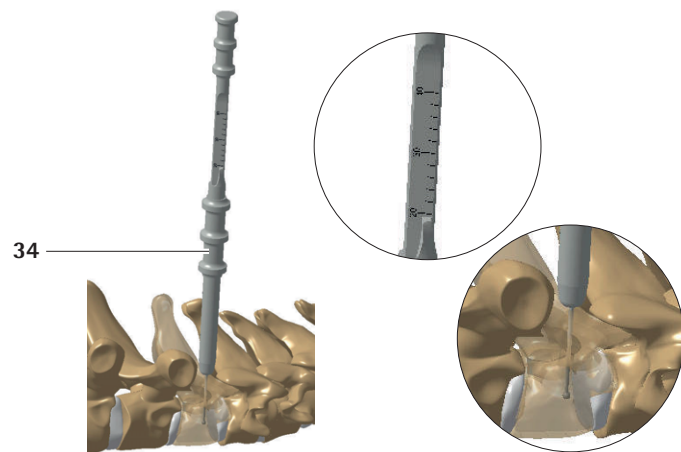

Fig. 14
- Use the pedicle depth gauge 34 (FW042R) to measure the desired depth of the hole by using the retractable sleeve, see Fig. 14.